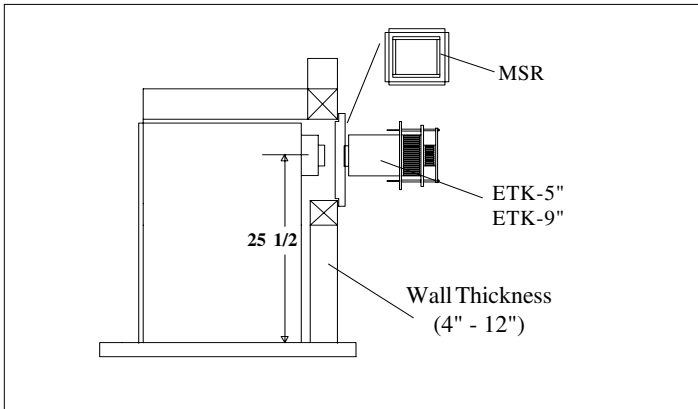

FIGURE 5. STANDARD INSTALLATION
- 1). Standard 4" or 6" stud walls. For 4" walls use a stucco frame and a 5" termination. For 6" walls use a stucco frame and a 9" termination. (See figure 5).